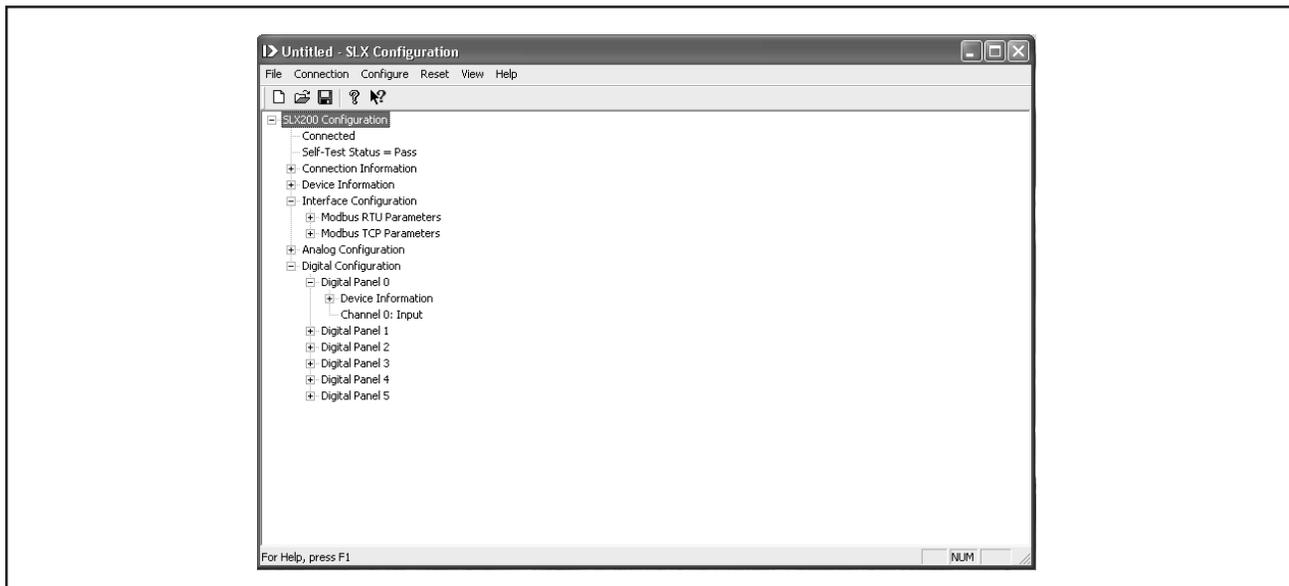

Figure 2.3
- (1) In the **Configure Digital Channel States** dialog box, select “Input” from the drop-down list-box.
- (2) Click the **Configure** button in the top right corner to send isoLynx its new configuration. After a short communication pause, the isoLynx SLX200 Base Unit Controller is now configured. The **Configure Digital Channel States** dialog box disappears.
- (3) At this point, the SLX Configuration utility reverts to the View Pane. Figure 2.3 has the “Digital Configuration and Panel 0” lines expanded to confirm that Channel 0 has been configured as an input.